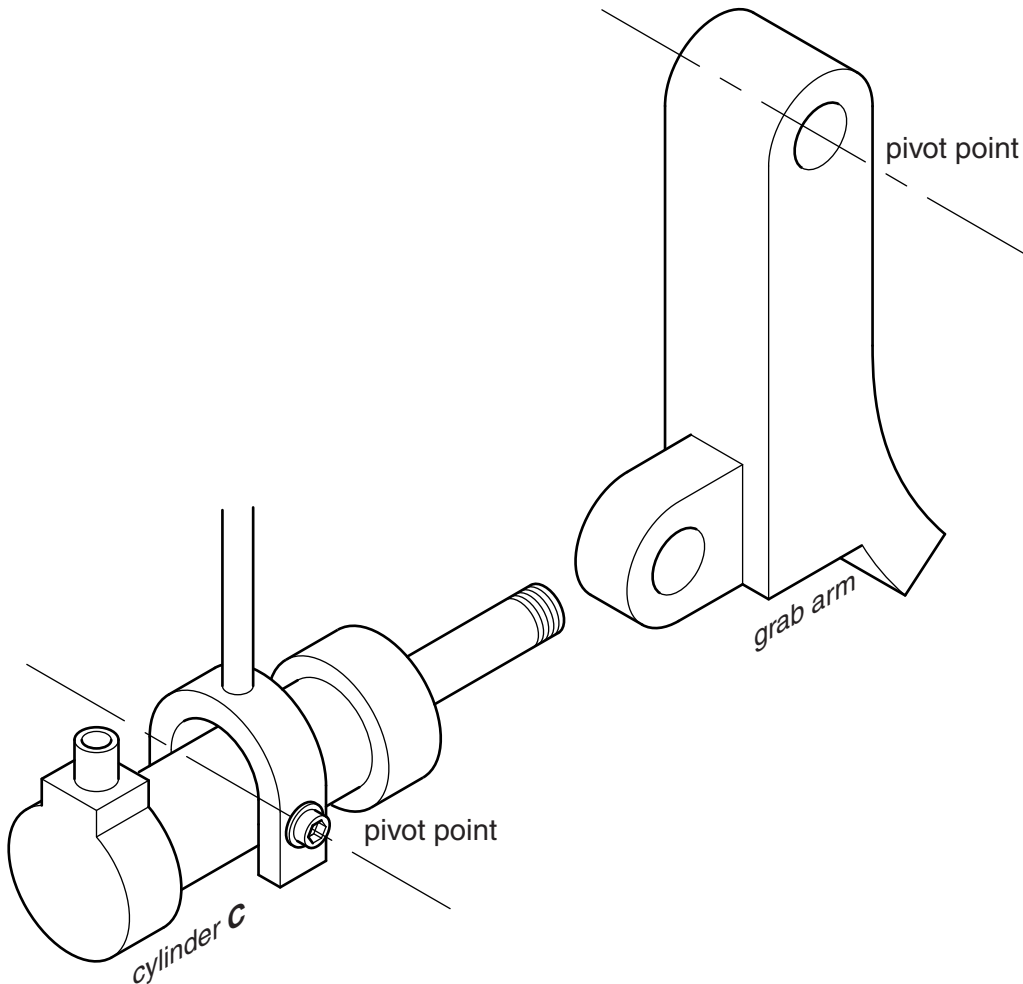

Fig. 6
4 Fig. 6 shows the grab arm and cylinder **C** which moves the arm against a drink can.
- (a) (i) Draw a design on Fig. 6 for a connector that will: